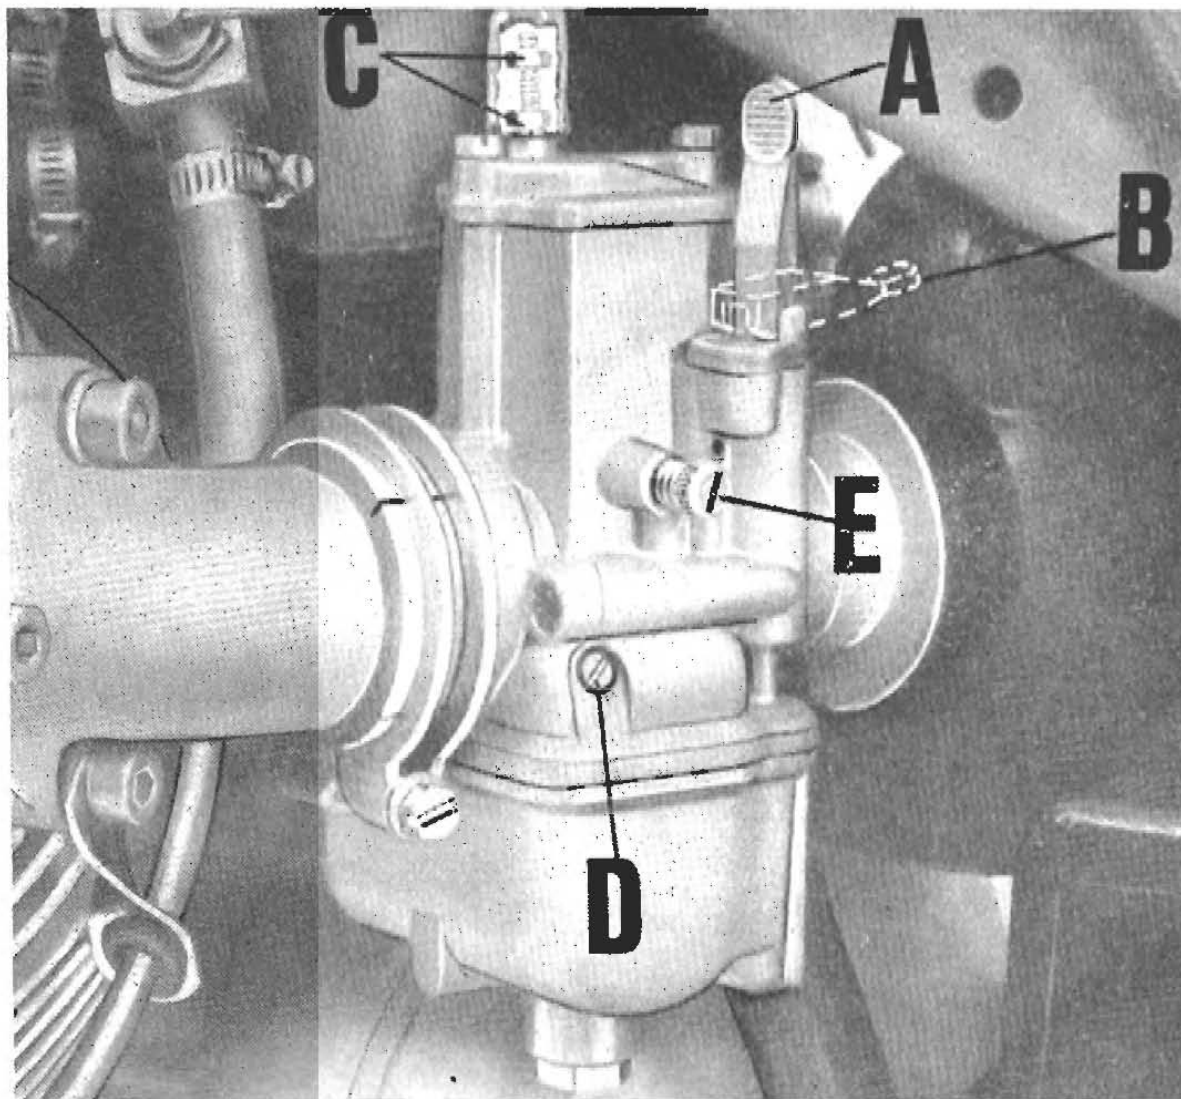

Fig. 16
CARBURETOR (See fig. 16)
is on each carburetor (See fig. 16).
Adjusting the carburation (See fig. 16)
Should one valve open before the other, correct by setting screw C (fig. 16) in the position where by turning the throttle both valves open simultaneously.
- 2) Adjust the idling speed by acting on screw D (fig. 16). Screwing this in reduces the fuel flow and viceversa increases it. To